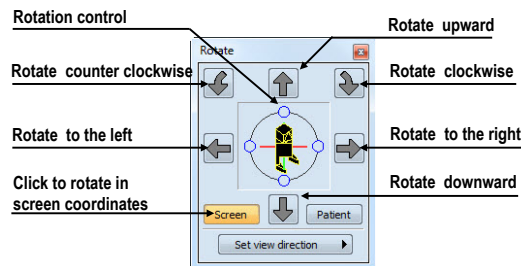

Figure 218 – Rotate tool (Screen mode)
- rotation in screen coordinates (see Figure 218)